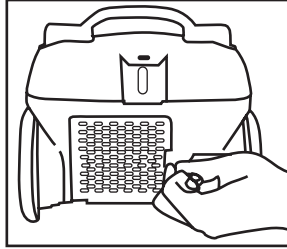
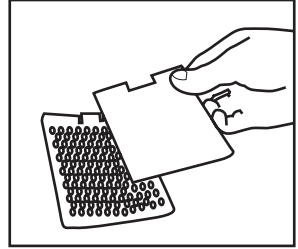

Fig. 11
Fig. 12
8. To clean or replace the air outlet filter, remove the outlet cover (fig. 11) and lift out the filter (fig. 12).